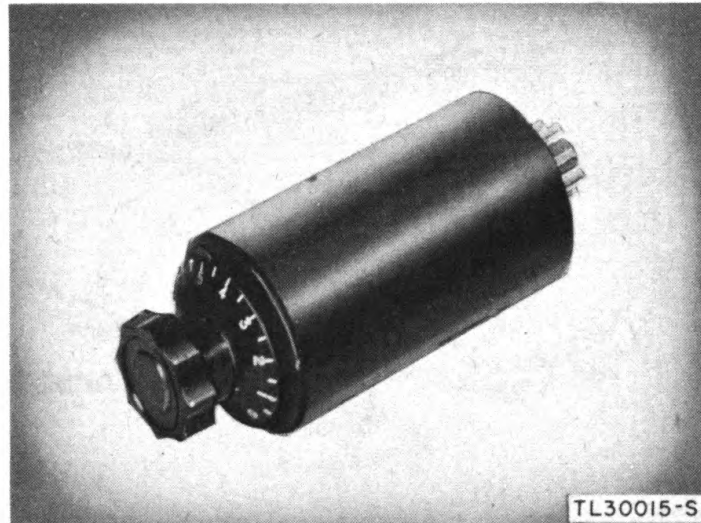

Figure 9. Emergency receiver tuner.
11. EMERGENCY RECEIVER TUNER (fig. 9).